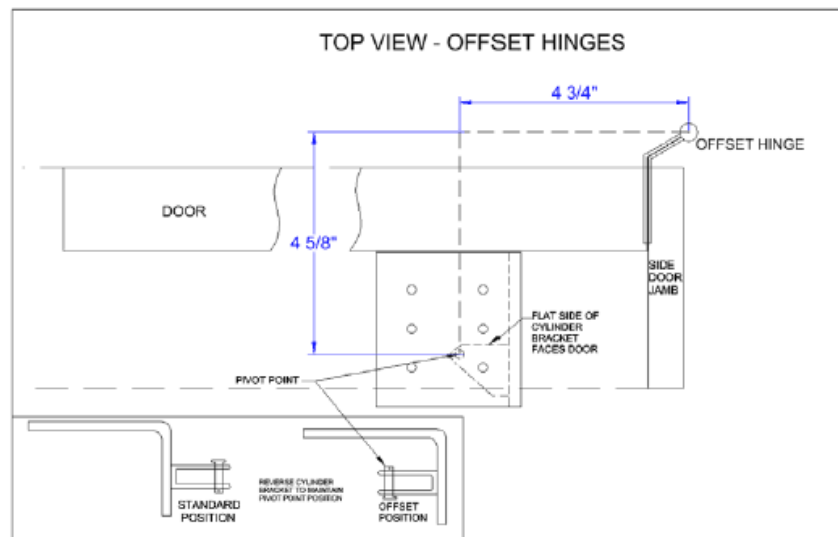

Figure 4A
Offset hinges (Figure 4A) offer a special modification that permits a door to open entirely outside its frame. The purpose of this is to allow a wider opening for wheelchairs. If these hinges are used, the mounting bracket must be reversed as shown in Figure 4A in order to compensate for moving the pivot point closer to the side jamb. Here again the bracket will work with both left and right hand doors.
1. Move the cylinder mounting bracket to the inside of the main bracket as shown in Figure 4A.